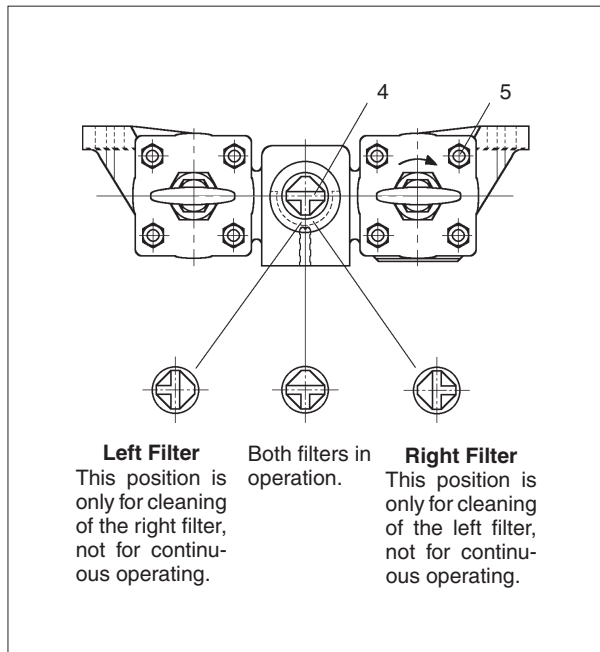

Fig. 2. Fuel oil split filter (top view).
3) Position of three way cock, see fig. 2.